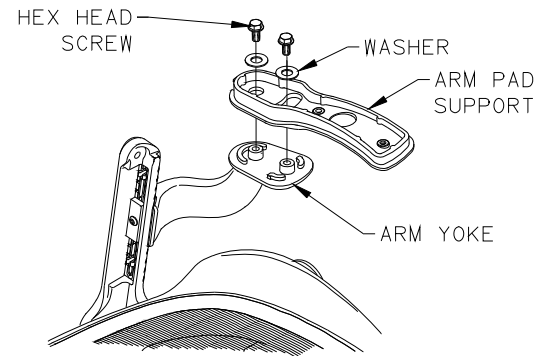

FIGURE 3
-FOR FIXED ARMS, INSTALL ARM PAD SUPPORT, (2) WASHERS, AND HEX HEAD SCREWS TO ARM YOKE. TORQUE SCREWS TO 200-250 IN-LBS. SEE FIGURE 3.
-FOR VERTICALLY ADJUSTABLE ARMS, INSTALL VERTICALLY ADJUSTABLE SPACER TO ARM YOKE WITH TAB POINTING TO OUTSIDE OF ARM YOKE. INSTALL ARM PAD SUPPORT, (4) NYLON WASHERS AND HEX HEAD SCREWS TO ARM YOKE. TORQUE SCREWS TO 200-250 IN-LBS. IF CHAIR HAS (2) STEEL WASHERS AND (2) NYLON WASHERS, INSTALL AS INSTRUCTED ABOVE.